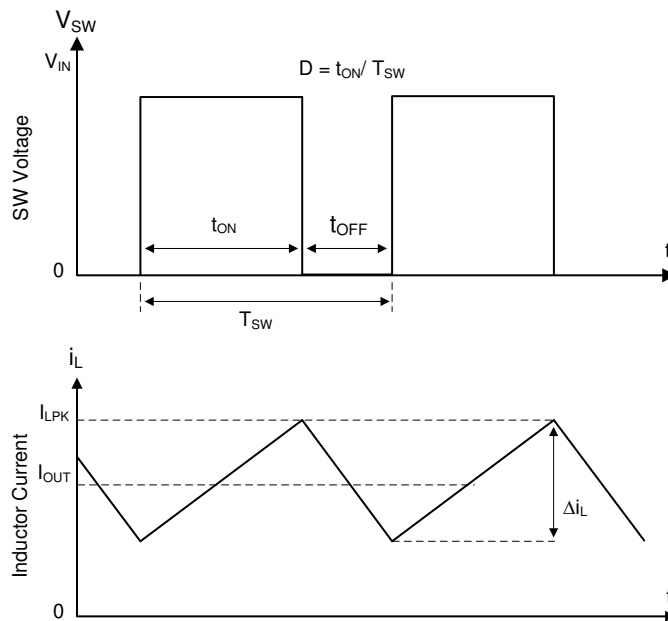

Figure 6-1. SW Node and Inductor Current Waveforms in Continuous Conduction Mode (CCM)
The following operation description of the TPS54x38 refers to the functional block diagram and to the waveforms in Figure 6-1. The TPS54x38 is a synchronous buck converter with integrated high-side (HS) and low-side (LS) MOSFETs (synchronous rectifier). The TPS54x38 supplies a regulated output voltage by turning on the HS and LS NMOS switches with controlled duty cycle. During high-side switch on time, the SW pin voltage swings up to approximately V_{IN} , and the inductor current, i_L , increases with linear slope $(V_{IN} - V_{OUT}) / L$. When the HS switch is turned off by the control logic, the LS switch is turned on after an anti-shoot-through dead time. Inductor current discharges through the low-side switch with a slope of $-V_{OUT} / L$. The control parameter of a buck converter is defined as Duty Cycle $D = t_{ON} / t_{SW}$, where t_{ON} is the high-side switch on time and t_{SW} is the switching period. The converter control loop maintains a constant output voltage by adjusting the duty cycle D . In an ideal buck converter where losses are ignored, D is proportional to the output voltage and inversely proportional to the input voltage: $D = V_{OUT} / V_{IN}$.